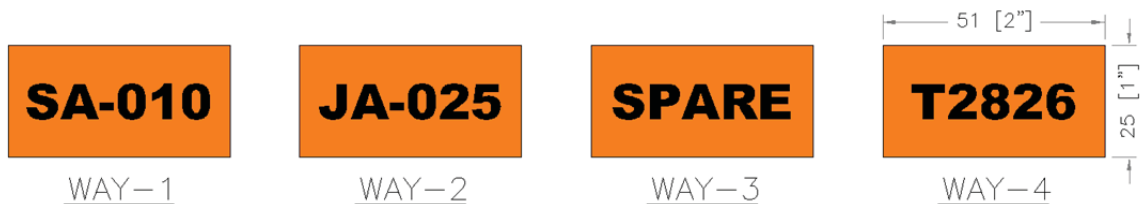

Figure-3 Operating Handle/Viewing Window Labels (Example)
- Figure-3 Operating Handle/Viewing Window Labels (Example)